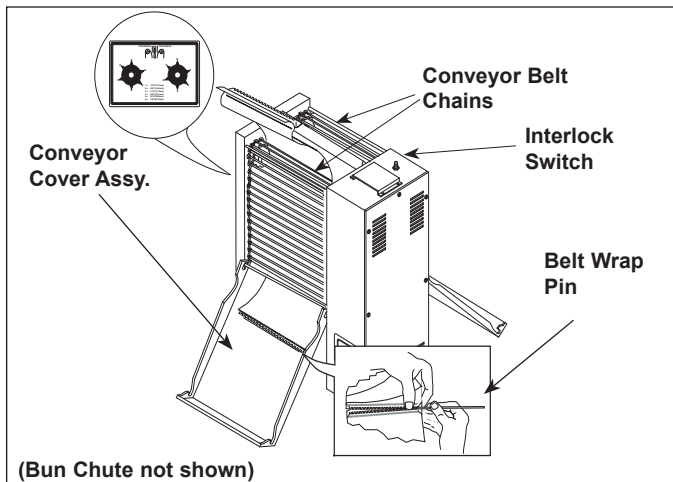

Figure 7. Removing Belt Wrap
3. Open both Conveyor Covers and pull the Belt Wrap Pin out of the zipper (Figure 7).
4. Remove the Belt Wraps and set aside (Figures 7 & 8).